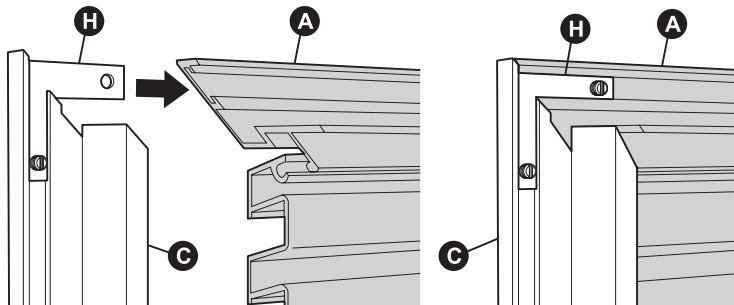

Figure 5
5. Join each side trim (B and C) to the top trim (A). Make sure the ends of the Grille Assembly are captured in the channel of each side trim, then tape in place. Gently secure brackets (H) to top trim (A) by tightening set screws (I), only until snug to avoid dimpling the trim face. See Figure 5. **DO NOT OVERTIGHTEN.**